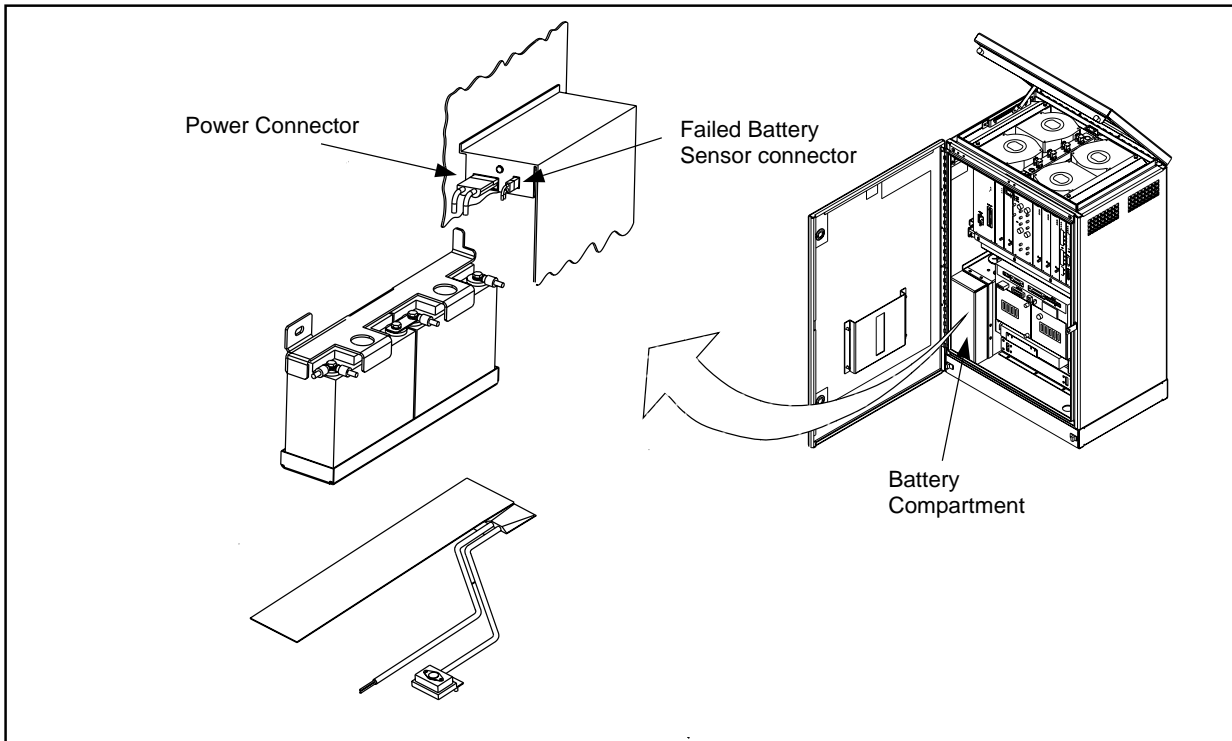

Figure 5-22. Location of Battery Heater
5. Locate the battery compartment. The battery heater is under the battery tray. See Figure 5-22 on page 5-46.